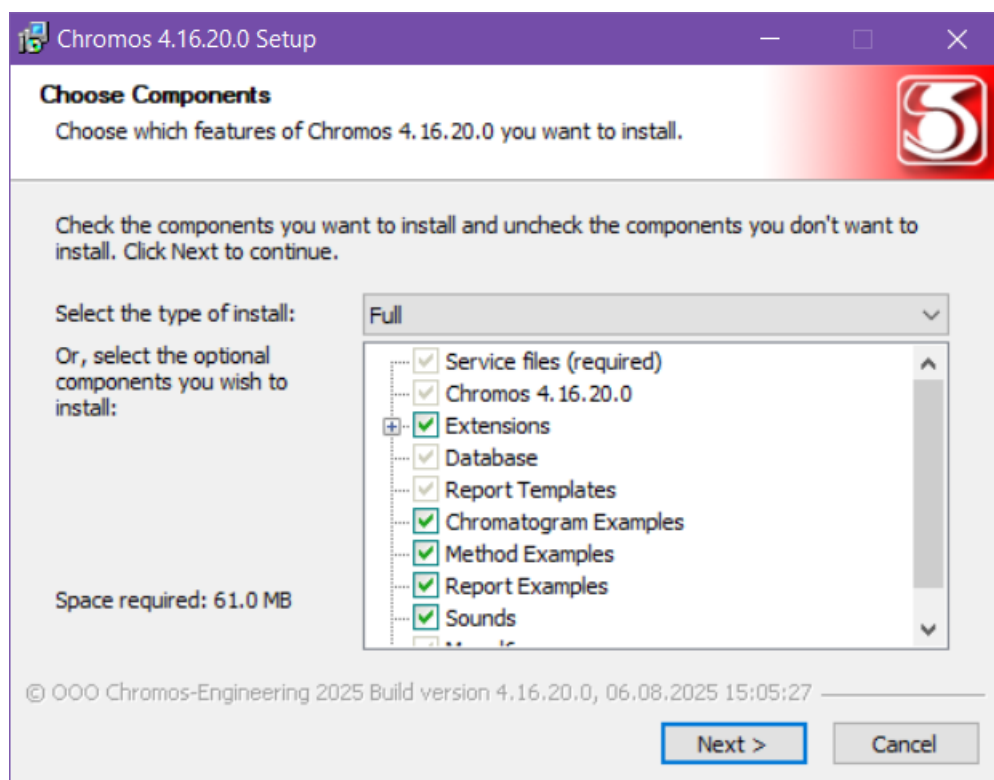

Fig. 1: Selecting system components to install
3. Select the components you want to install. Full installation is selected by default(Fig. 1).